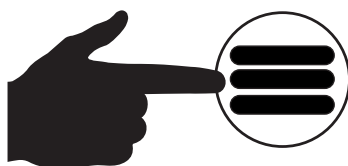

Figure 137. Main Menu Button
27. Press the **Main Menu button** (Figure 137) on **generator #2**.
10. Press the **Main Menu** button (Figure 137).